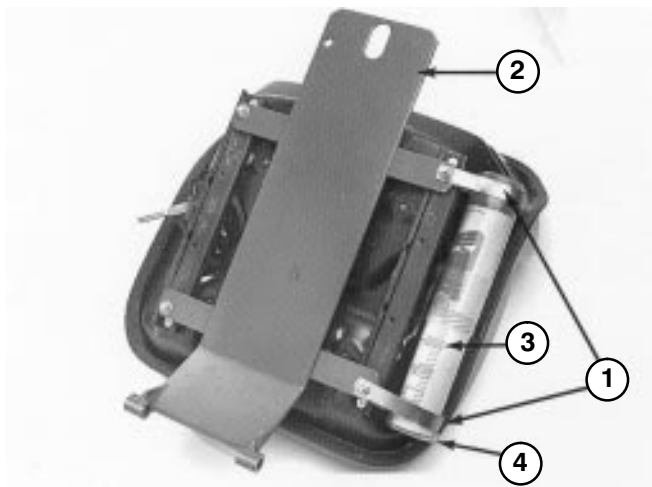

Figure 5
7. Loosely secure (2) R-clamps to right side of seat bottom with (2) capscrews and flatwashers supplied in kit (Fig. 5). Install manual tube into R-clamps and tighten capscrews (Fig. 5).